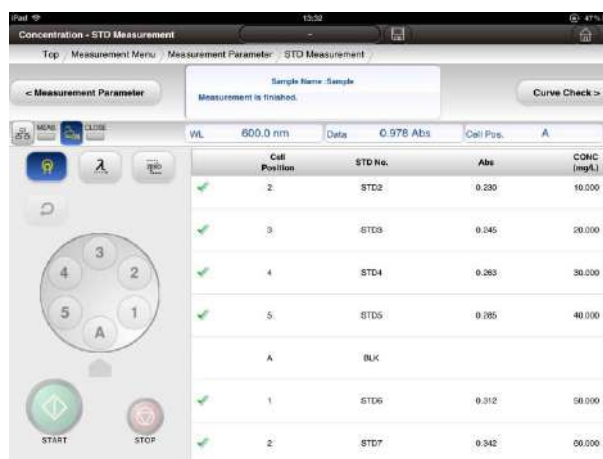

Fig. 4-17 Window After Standard Measurement (Standard Number: 10)
- (6) When measurement of all set number of standardss is completed, the window of Fig. 4-17 will be shown.